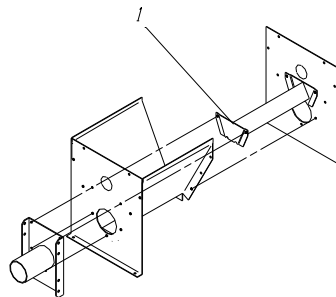

Fig. 78 Installation of intermediary inlet in connection with residue silo
The cover (Fig. 78) is used at proportioning of pelleted material. At proportioning of granulated material the cover must be removed, if the problem occurs that the material is stuck in the silo.
If the intermediary inlet is mounted under a bigger silo from where pellets are proportioned, the cover (pos. 1, Fig. 78) shall be mounted in order to reduce the pressure on the auger.